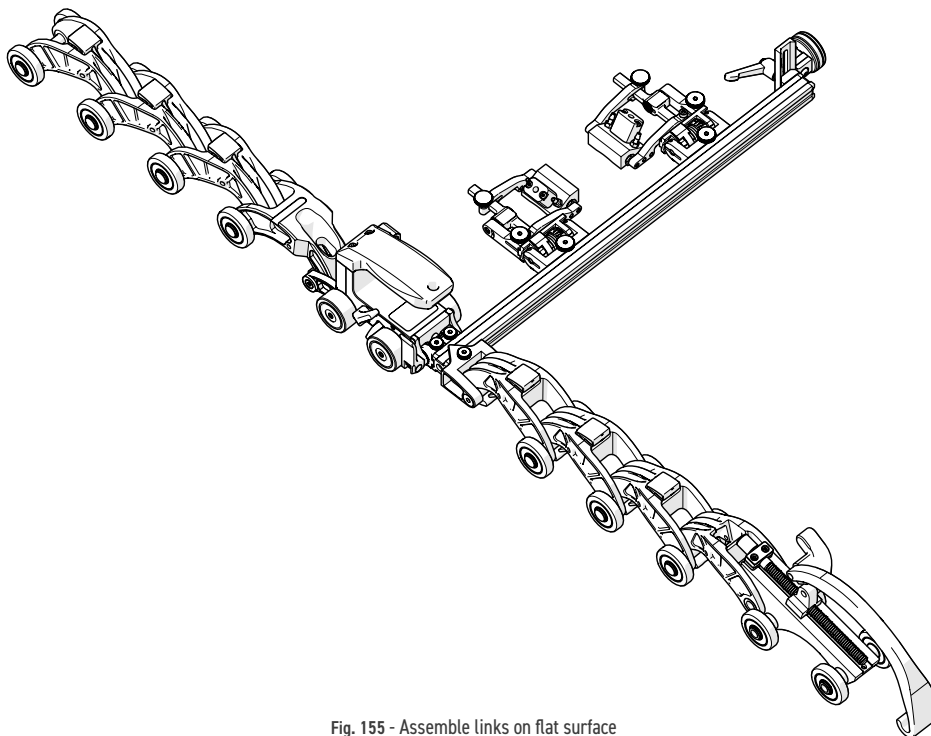

Fig. 155 - Assemble links on flat surface
3. On a flat surface, connect the appropriate amount of QuickLinks as indicated on the **ROTIX** setup chart. Arrange the configuration so the QuickLink Buckle will be 180° opposite the cart body (Fig. 155).